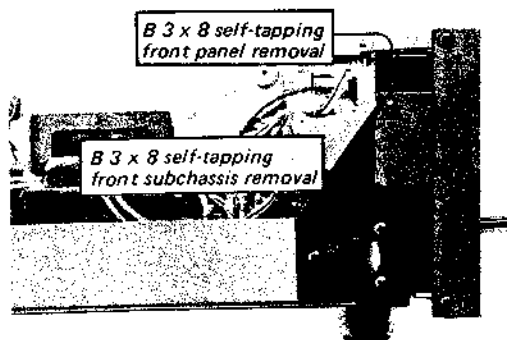

Fig. 2-2. Side view
- Remove the three screws at both sides of the chassis as shown in Fig. 2-2.